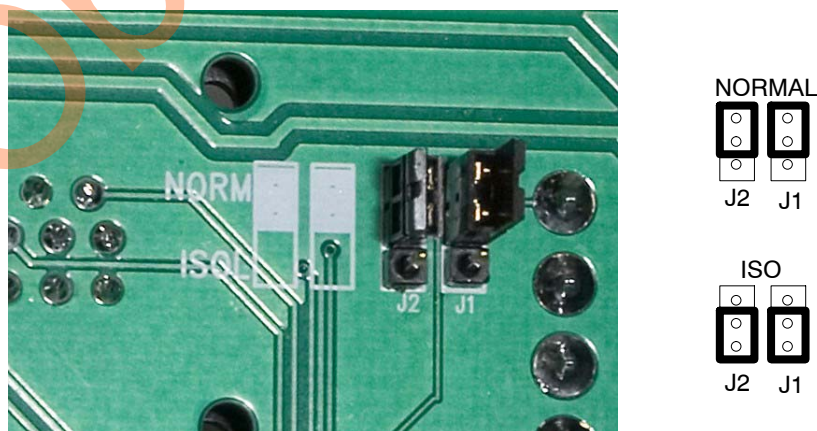

Figure 3-7 Machine Stop Interlock Jumper Settings – Shown Set To NORMAL
See Figure 3-7. To access the Machine Stop Interlock jumpers remove the system controller cover. The jumpers are on the back of the I/O connector circuit board.
- Both jumpers must be set to one of the two positions as shown in Figure 3-7.